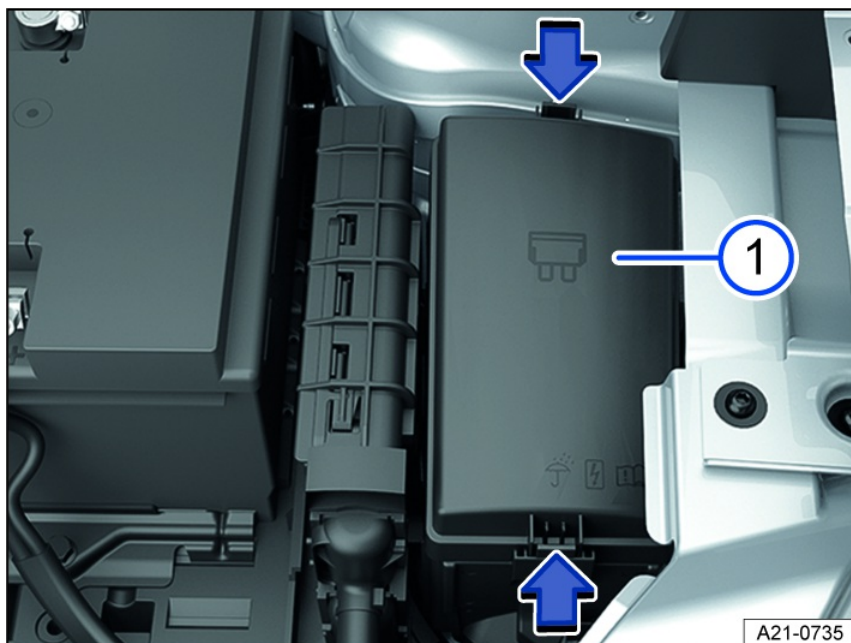

Fig. 186 In the engine compartment: Fuse box.
2. Press the catches in the direction of the arrow to unlock the fuse box cover *fig. 186* ①.